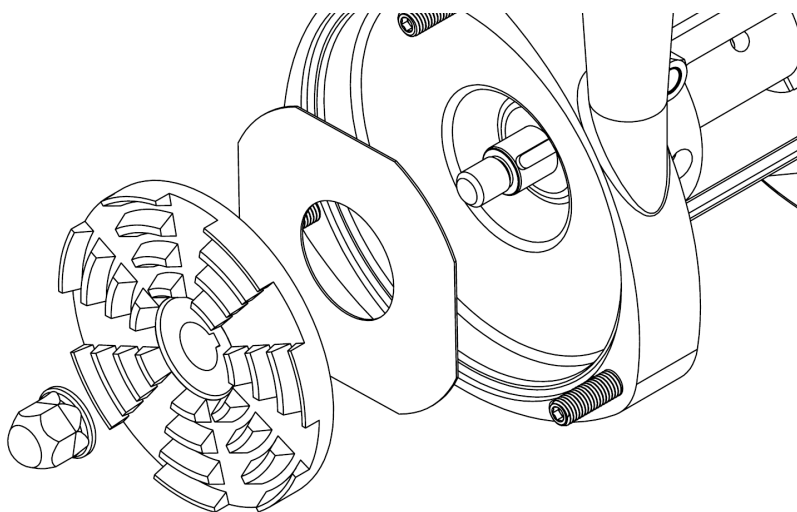

Figure 23
6. Remove the impeller nut, impeller, stub-shaft setting shim and clearance shim, figure 23.